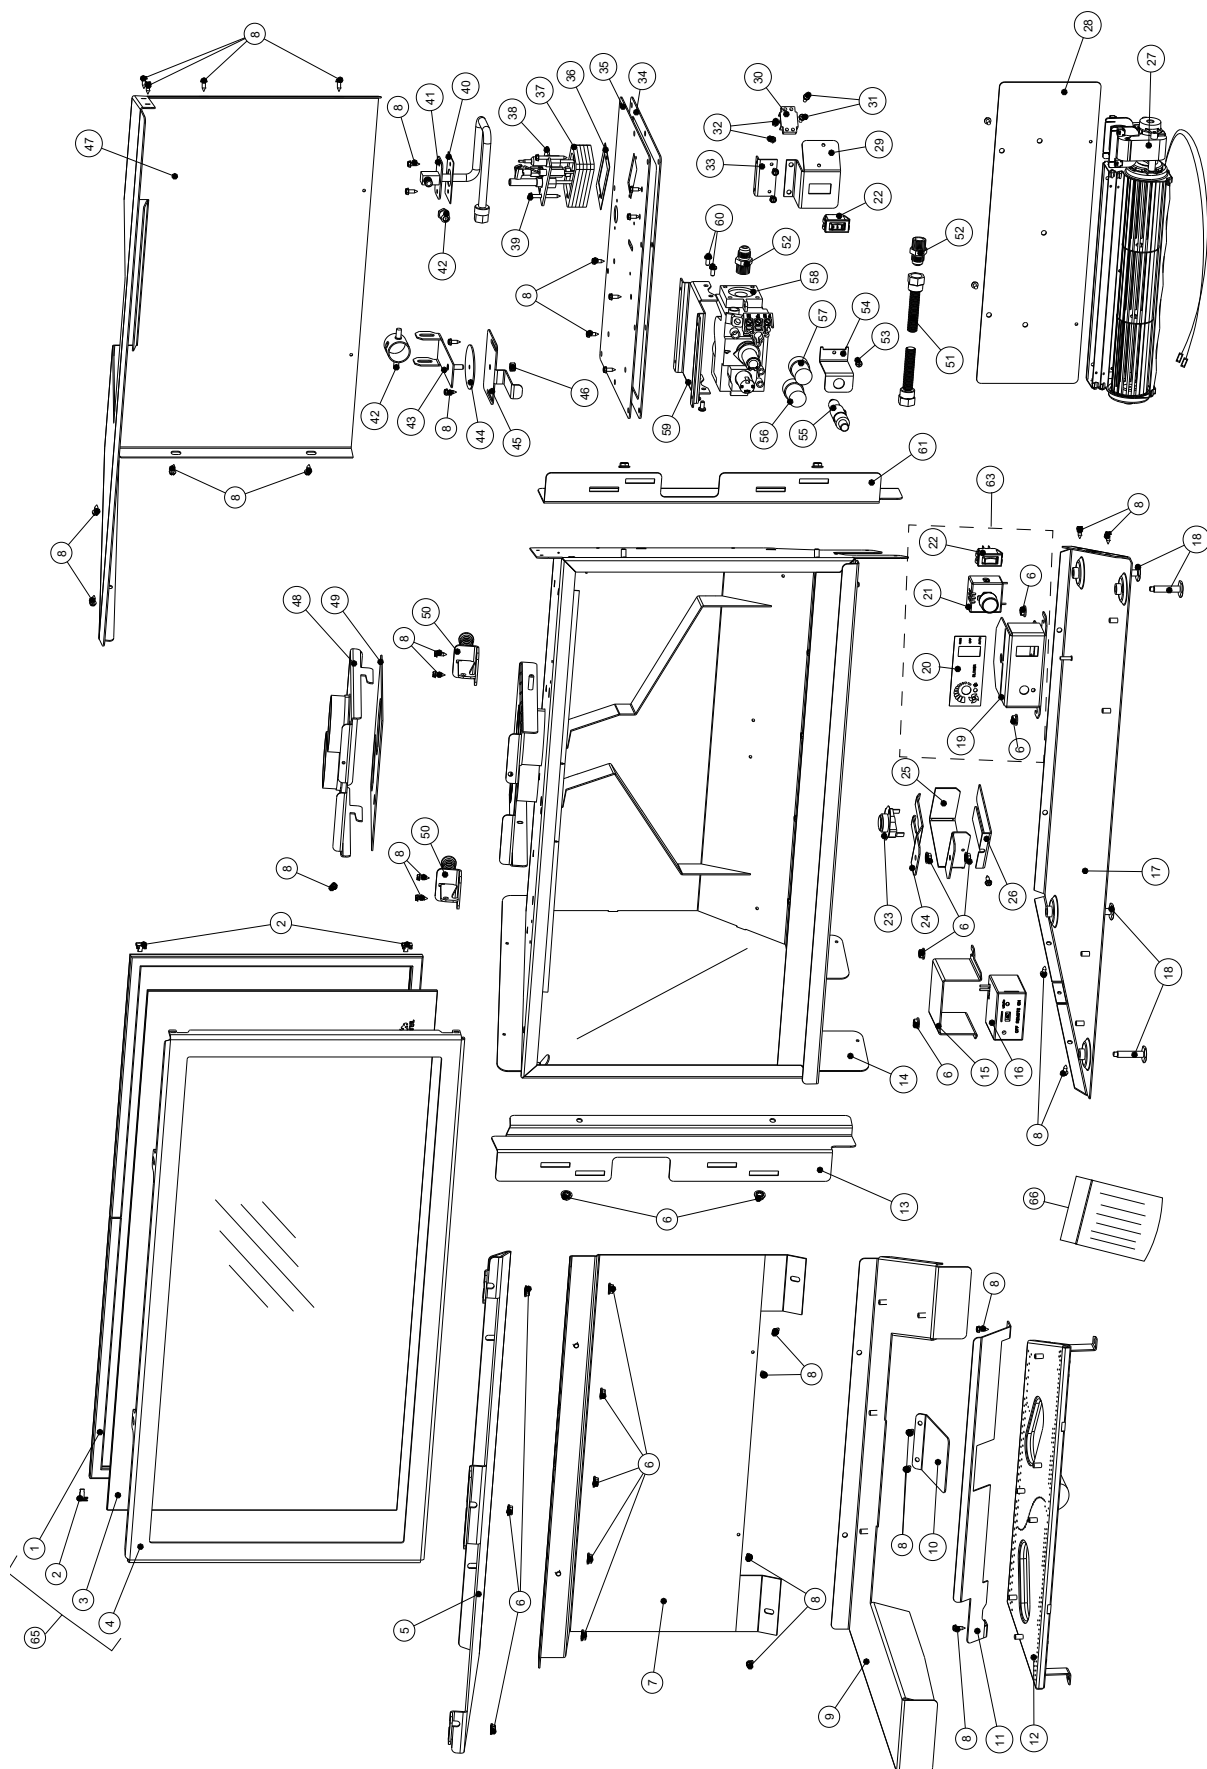

Figure 10.1
**ALWAYS USE JØTUL AUTHORIZED PARTS. NEVER SUBSTITUTE PARTS FROM OTHER SOURCES. See fig. 10.1, page 31.**